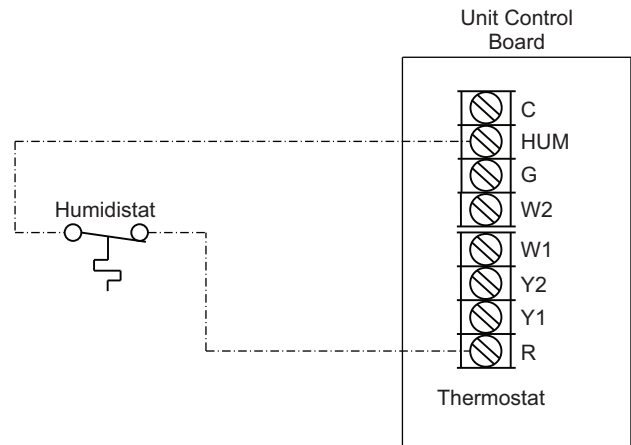
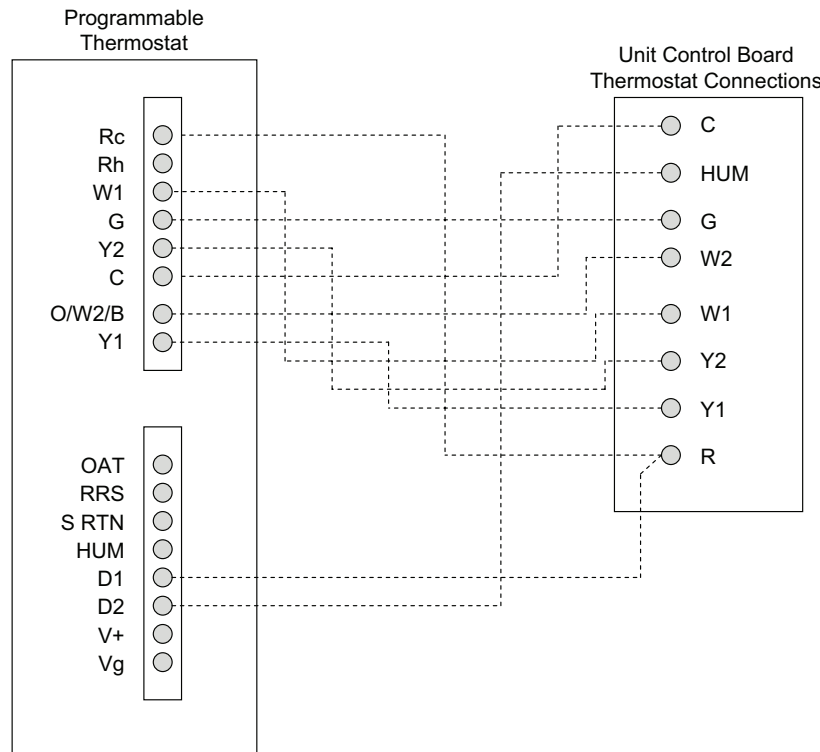

Fig. 37 — Humidistat Connections to UCB
Fig. 38 — Typical Rooftop Unit with Humidi-MiZer Adaptive Dehumidification System and Edge® Pro Thermidistat Device
The Humidi-MiZer dehumidification system requires a field-supplied and field-installed space relative humidity control device. This device may be a separate humidistat control (contact closes on rise in space RH above control set point) or a combination thermostat-humidistat control device such as Carrier's Edge® Pro Thermidistat™ device with isolated contact set for dehumidification control. See Fig. 37 and Fig. 38. The humidistat is normally used in applications where a temperature control is already provided (units with SystemVu™ control).
3. Connect one of the leads from the 2-conductor cable to the HUM terminal on the UCB (Unit Control Board). Connect the other lead to the R terminal on the UCB. See Fig. 37.
3. The Thermidistat has dry contacts at terminals D1 and D2 for dehumidification operation (see Fig. 38). Connect D1 to the R terminal on the UCB. Connect D2 to the HUM terminal on the UCB. Refer to the installation instructions included with the Carrier Edge® Pro Thermidistat device for more information.